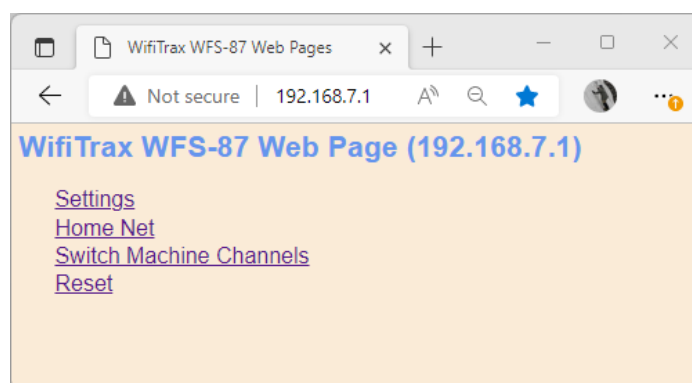

Figure 24 Main Menu of WFS-87 Module shown in a Browser
- (1) The first thing you have to is make the WFS-87 connect to your router. So, using a computer, tablet or phone, connect to its access point wftrx_WFS87_1_XXXXXXX_7. You don't need a password.
- (2) Now open a browser such as Chrome, Edge or Safari and enter 192.168.7.1 into the URL text box and hit enter. This will display the main menu of the WFS-87 module as Figure 24.